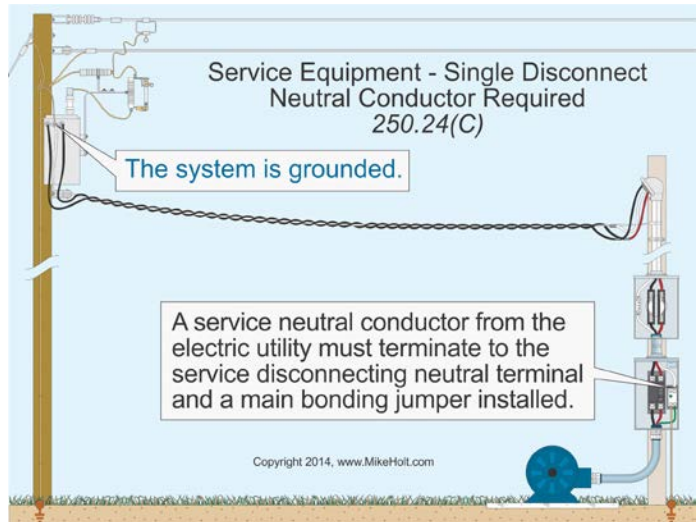

Figure 250-51
(C) Neutral Conductor Brought to Service Equipment. A service neutral conductor must be run from the electric utility supply with the ungrounded conductors and terminate to the service disconnect neutral terminal. A main bonding jumper [250.24(B)] must be installed between the service neutral terminal and the service disconnecting means enclosure [250.28]. *Figures 250-51 and 250-52*